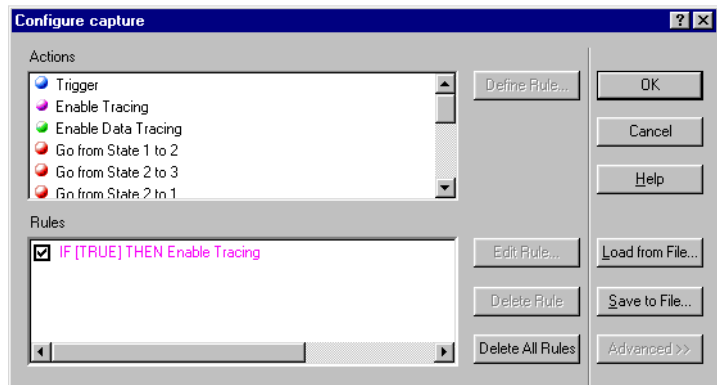

Figure 8-3 Configure capture dialog box
4. Click **Finish** to create this rule. The Configure Capture dialog box now shows the new Enable Tracing rule in the Rules list, as shown in Figure 8-3.